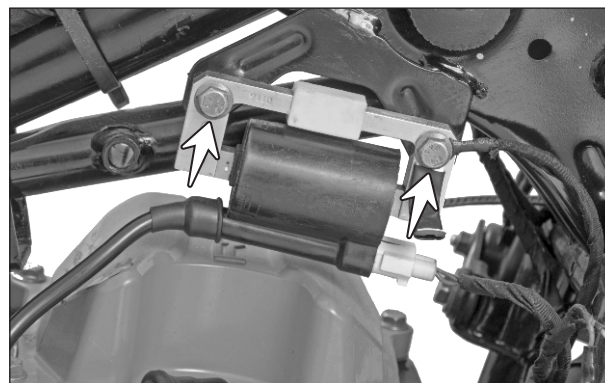

Fig. 2.51
- Remove the hexagonal flange bolt (M6x20 - 2 nos.) mounting the ignition coil assembly with the frame. (Fig. 2.51)